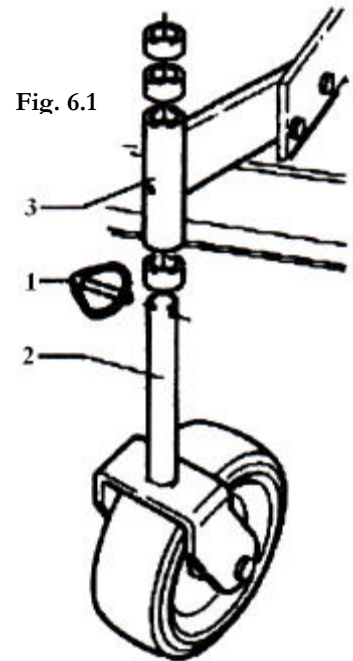

Fig. 6.1
### Adjusting the Cutting Height – Fig 6.1
- Mount the wheel axle 2 onto the wheel support 3, slide any remaining spacers on and lock them in place with the split pins 1 (see fig. 6.1). The spacers are all different-sized to enable the height to be altered as accurately as possible. The more spacers are placed below the wheel support "3", the further away the blades will be from the ground (until reaching the maximum cutting height).